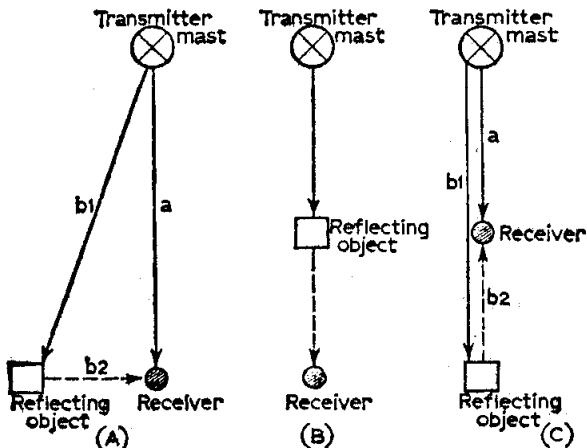

Fig. 1—The basic geometric relations of transmitter, reflector and receiver for ghost production.
It is the path difference between main and reflected signals which causes a proportionate time delay between the two signals, according to Table 1. We can distinguish three principle conditions, shown in Fig. 1, assuming the *same relative* transmitter-receiver and reflector-receiver distances in each case. In case (A), where these two distances are at right angles, so that *a* and *b1* are roughly equal, the path-difference is very roughly *b2*, the reflector-receiver distance. In case (C), where transmitter, receiver, reflector are in line, in that order, the path-difference is seen to be twice *b2*, so that the ghost will appear twice as far from the main image as in case (A).